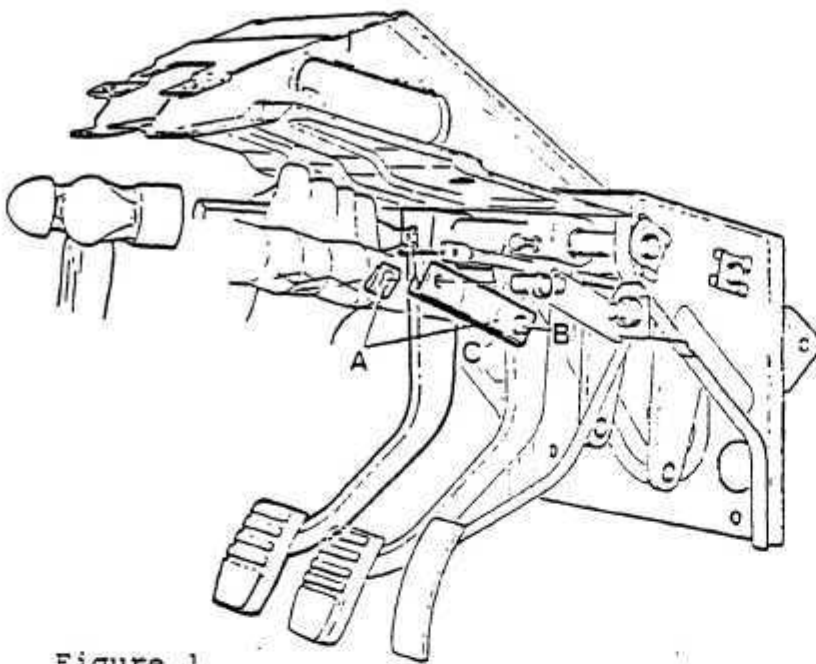

Figure 1
The clutch pedal stop bolt and weld nuts must be removed to permit the pedal to be raised. To carry out this operation, the following procedure should be observed (Figure 1).
D) Using a hammer and sharp chisel carefully shear off the 10 mm clutch stop nuts welded on both sides of the pedal box (Figure 1).